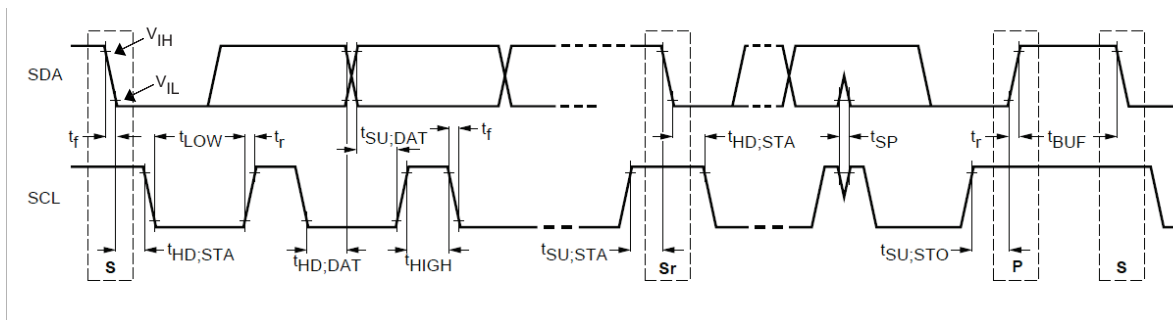

Figure 1. I²C Timing Definitions (reproduced from Phillips I²C spec Version 1.1)
(1) Specified by design. Not production tested.
(2) Refer to Figure 1 for I²C Timing Definitions
(3) C_b = capacitance of bus line in pF
- (1) Specified by design. Not production tested.
(2) Refer to Figure 1 below for I²C Timing Definitions